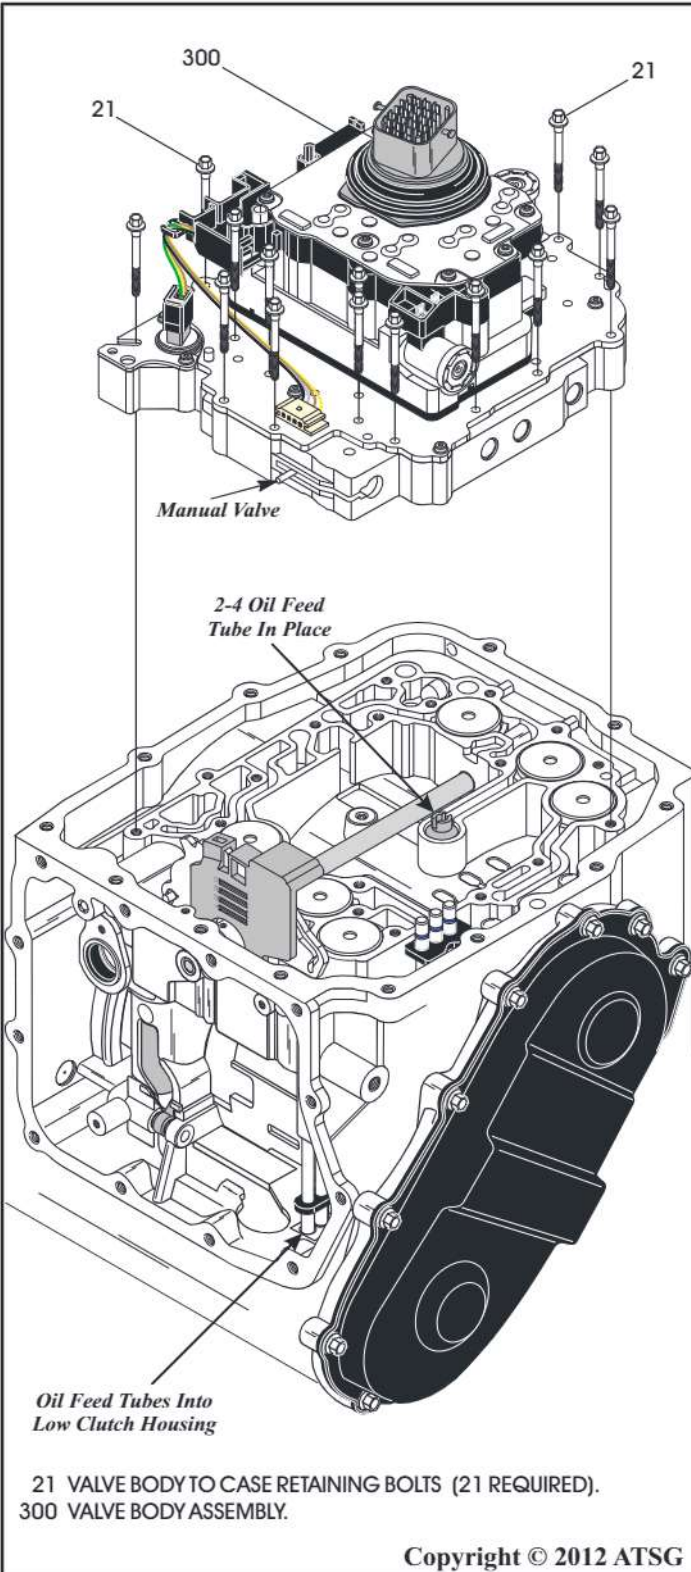

Figure 277
84. Ensure that oil feed tubes are fully seated into the low clutch housing, as shown in Figure 277.
85. Ensure that 2-4 oil feed tube is fully seated, as shown in Figure 277.
86. Install the completed valve body assembly, as shown in Figure 277, engaging the oil feed tubes into valve body and manual valve into the inside detent lever slot.
87. Install the 21 valve body to case retaining bolts, as shown in Figure 277, using a 7mm socket or a 9/32" socket.